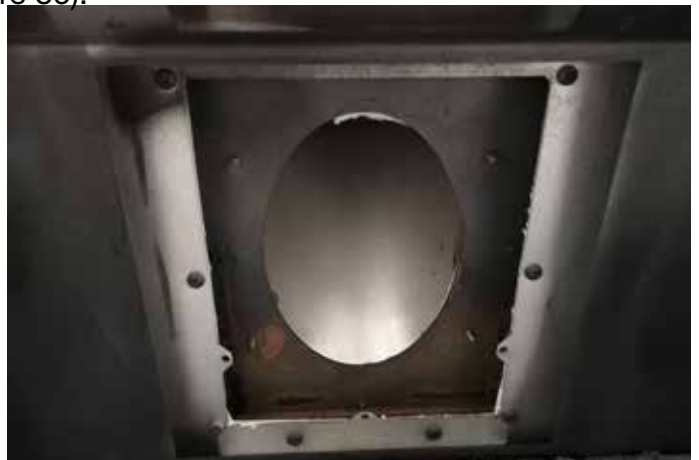

Figure 86: Flue opening.
- The angled back shield of the firebox is a removable part. Remove the 4 screws across the top of the panel. Pull the panel gently towards you to release it from the retainers on the back of the firebox. The flue opening will now be visible (Figure 86).